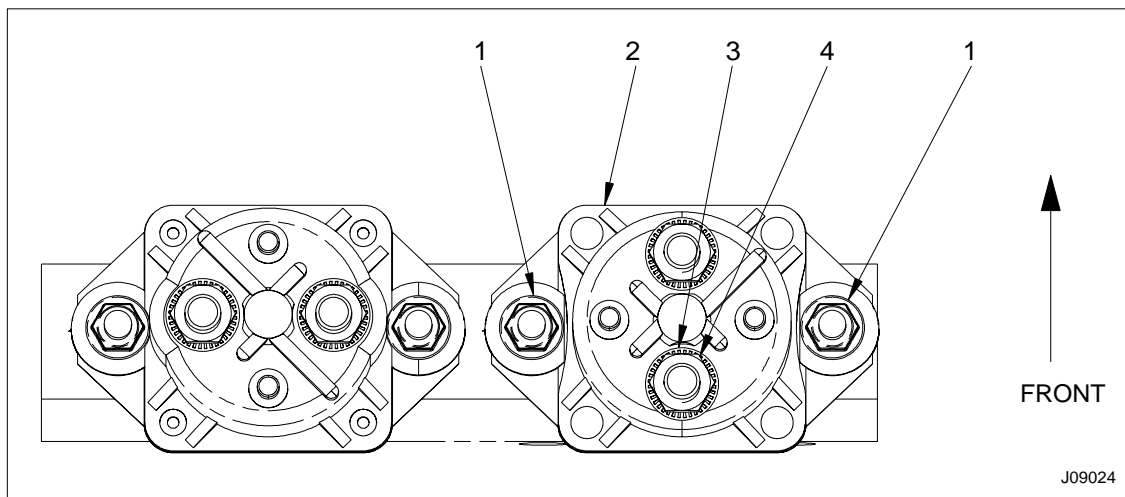

Figure 511 Glow plug relay mounting connections
4. Install the glow plug relay 2 (Figure 511) onto support bracket studs and tighten nuts.